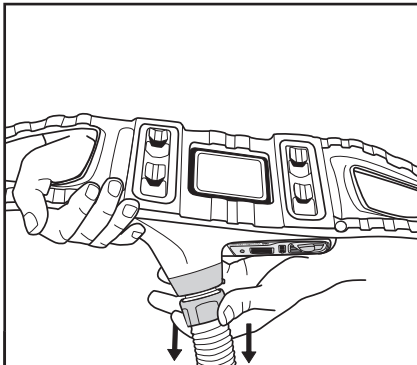

Fig. 11 – Removing breathing tube
4. Removal: Turn the motor/blower upside down so that the outlet faces down (Fig. 11) to help minimize the potential for contamination of the outlet.